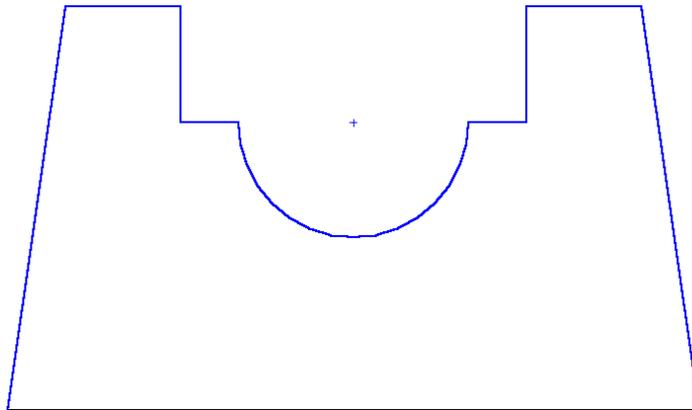

Figure 1-60 Final sketch for Tutorial 4
- d. Draw the outer loop of the sketch using the **Line** and the **Tangent Arc** tool, refer to Figure 1-60.
19. Choose the **Zoom to Fit** button from the **View** toolbar to modify the drawing display area. The final sketch for Tutorial 4 is shown in Figure 1-60.